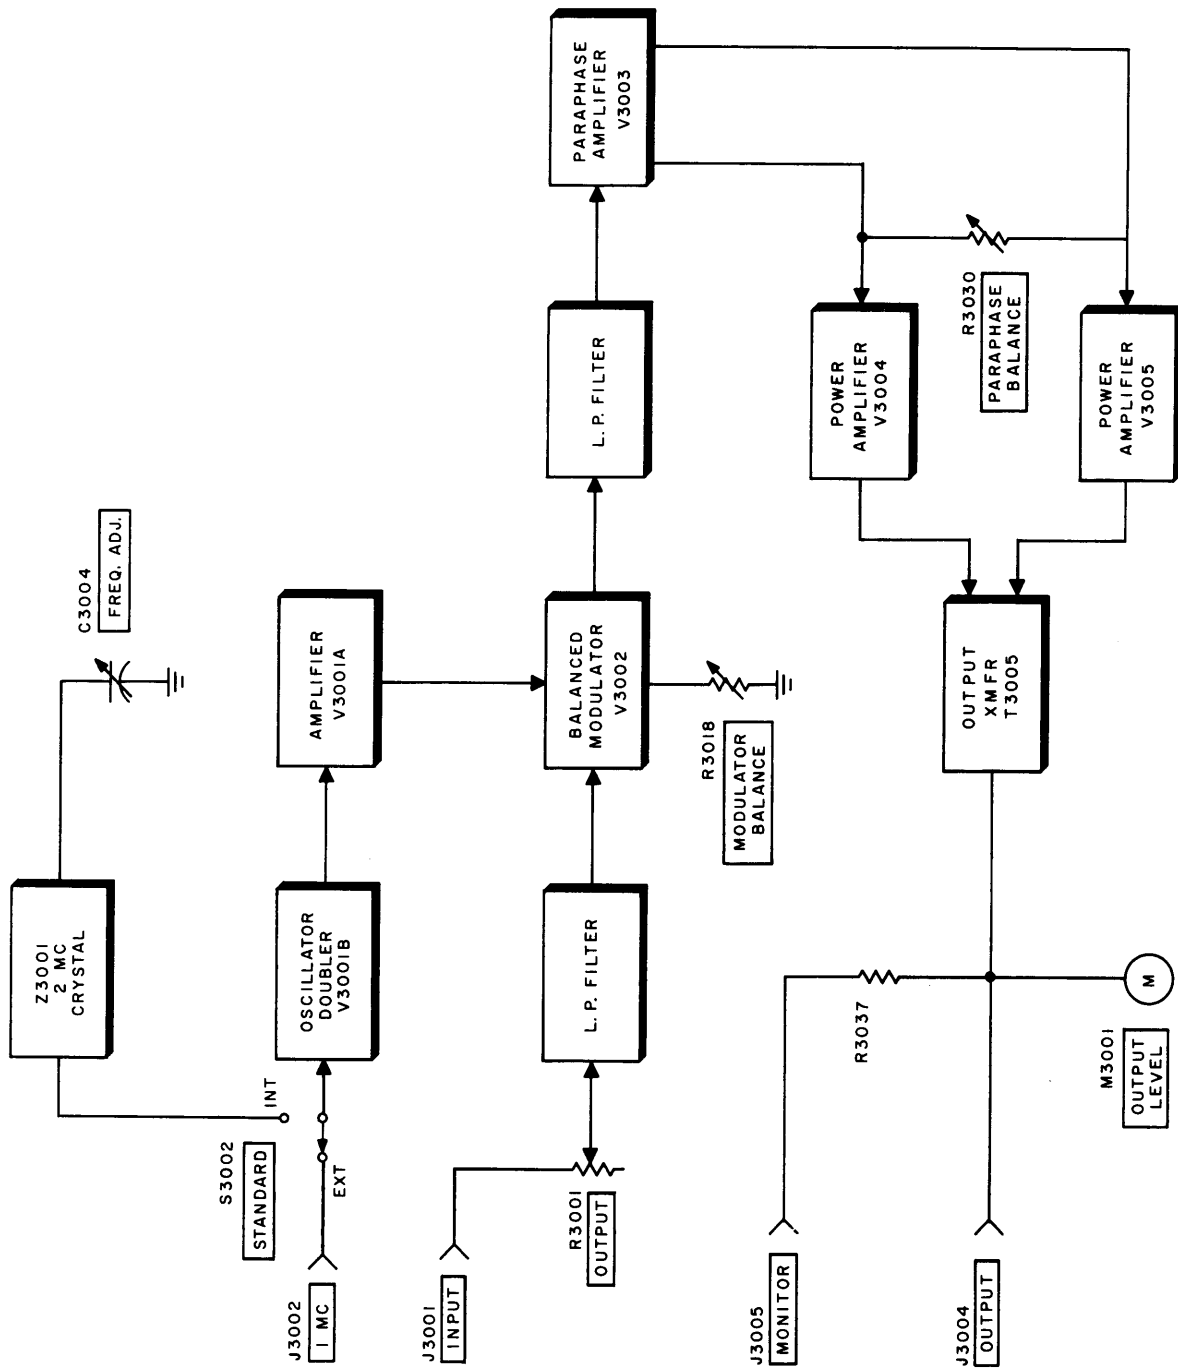

Figure 4-1. Overall Block Diagram, Model LFA-4
An overall block diagram of the LFA-4 is shown in figure 4-1. Paragraph 4-2 is a functional description to be used in conjunction with figure 4-1.
The amplified output of the power amplifier is then coupled through transformer T3005 and fed to the OUTPUT jack J3004, MONITOR jack J3005 and OUTPUT LEVEL meter M3001 circuitry. See figure 4-1.
- a. Overall block diagram (figure 4-1)